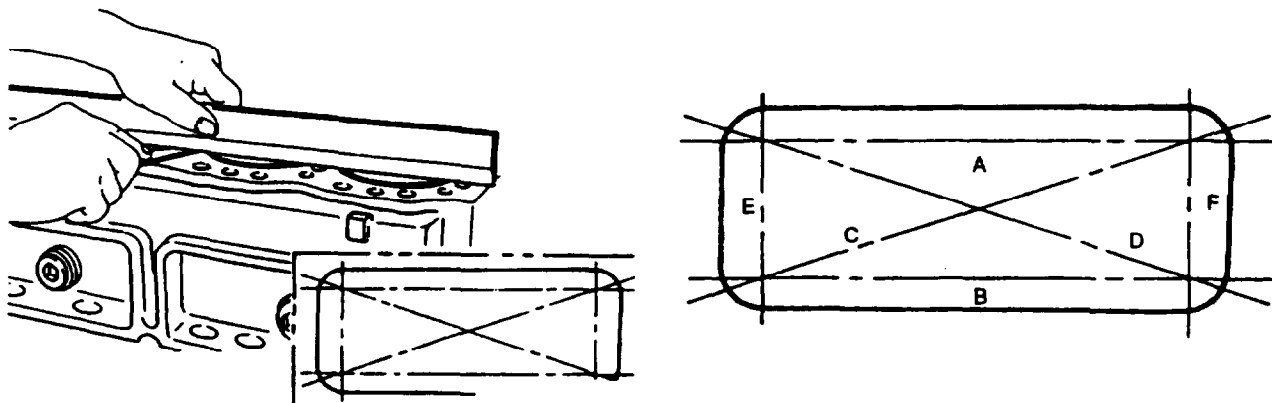

FIGURE 3-112. Cylinder Block Upper Face Warpage Measurement
- (1) If not removed, remove dowel pin.
- (2) Remove cylinder liner, refer to paragraph 3-32.1 step h.
- (3) Using a straight edge and a feeler gage, measure the four sides and two diagonals of cylinder block upper face, refer to FIGURE 3-112.
- (4) Standard warpage is 0.002 in. (0.05 mm) or less. If measured value exceeds 0.008 in. (0.2 mm) but is less than 0.016 in. (0.4 mm), regrind the cylinder block. If measured value is greater than 0.006 in. (0.14 mm), replace cylinder block.